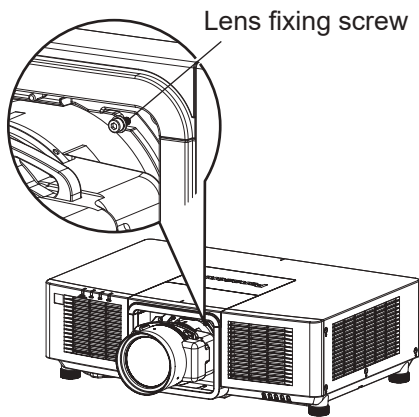

Fig. 1
- For a projection lens other than the Zoom Lens (Model No.: ET-EMU100), remove the screw on the right of the projection lens using a ball point hex driver. (Fig. 1)